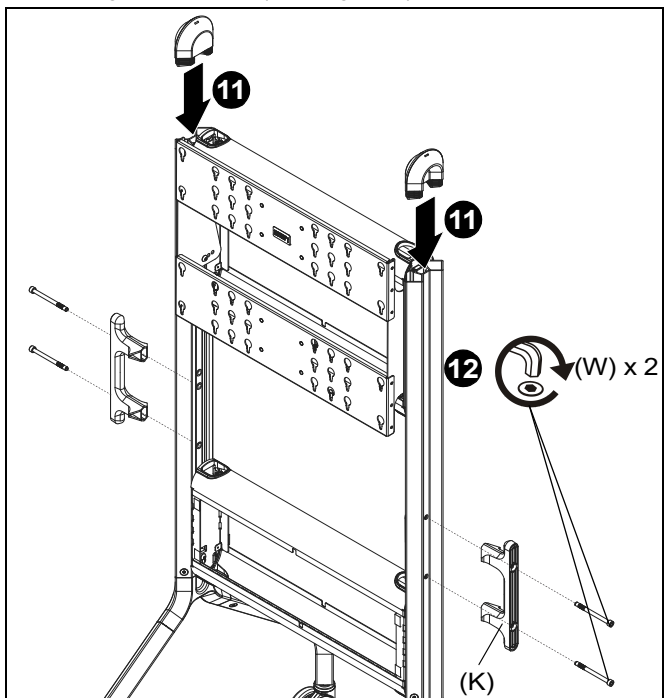

Figure 7
11. Insert two endcaps (J) into each side of main assembly (N). (See Figure 7)
12. Use two M8 x 100mm socket head cap screws (W) to secure each side handle (K) to main assembly (N). Do NOT overtighten screws! (See Figure 7)